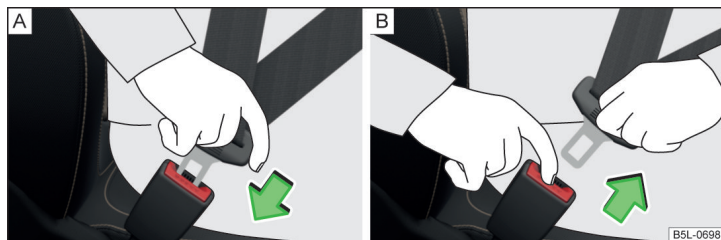

Fig. 5 Fastening/unfastening the seat belt
- » Insert the lock tongue into the belt buckle belonging to the seat » Fig. 5 - [A] until you hear it click into place.
- » Press the red button in the belt buckle » Fig. 5 - [B] and the lock tongue will pop out.